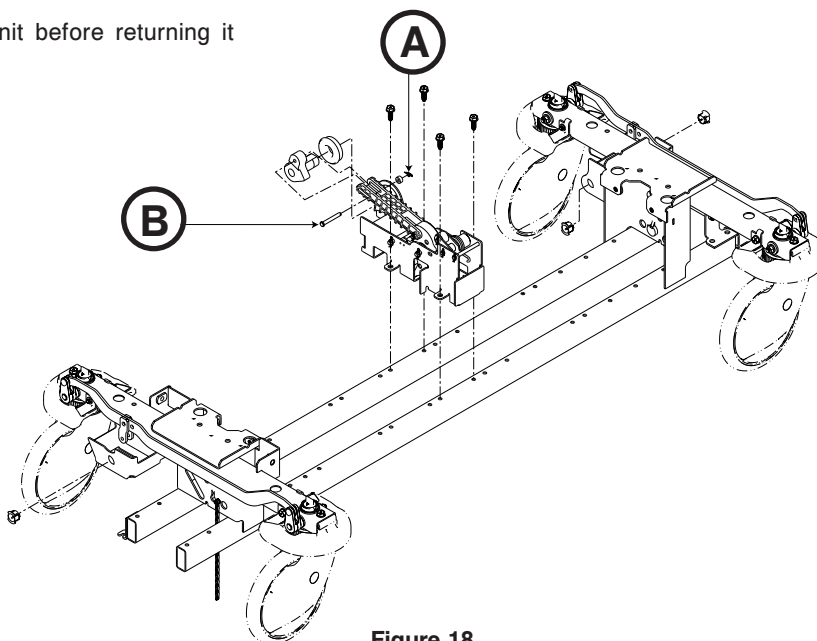

Figure 18
6. Using needle nose pliers, remove the big wheel drive link rue ring cotter (A) and clevis pin (B) from the lift cam and move the lift cam out of the way (Figure 18).